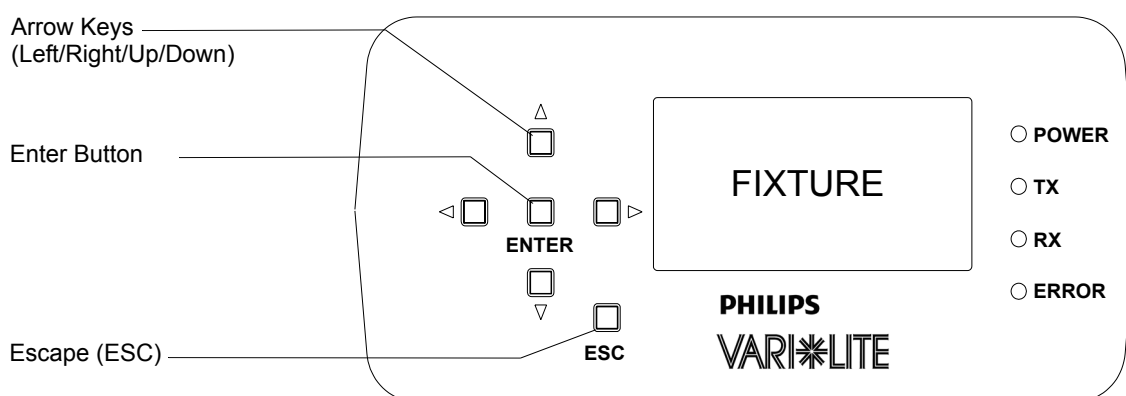

Figure A-1: VLX Wash LCD Display (Menu)
- Step 1. As indicated in Figure A-1, press [ESC] to access the main menu screen.